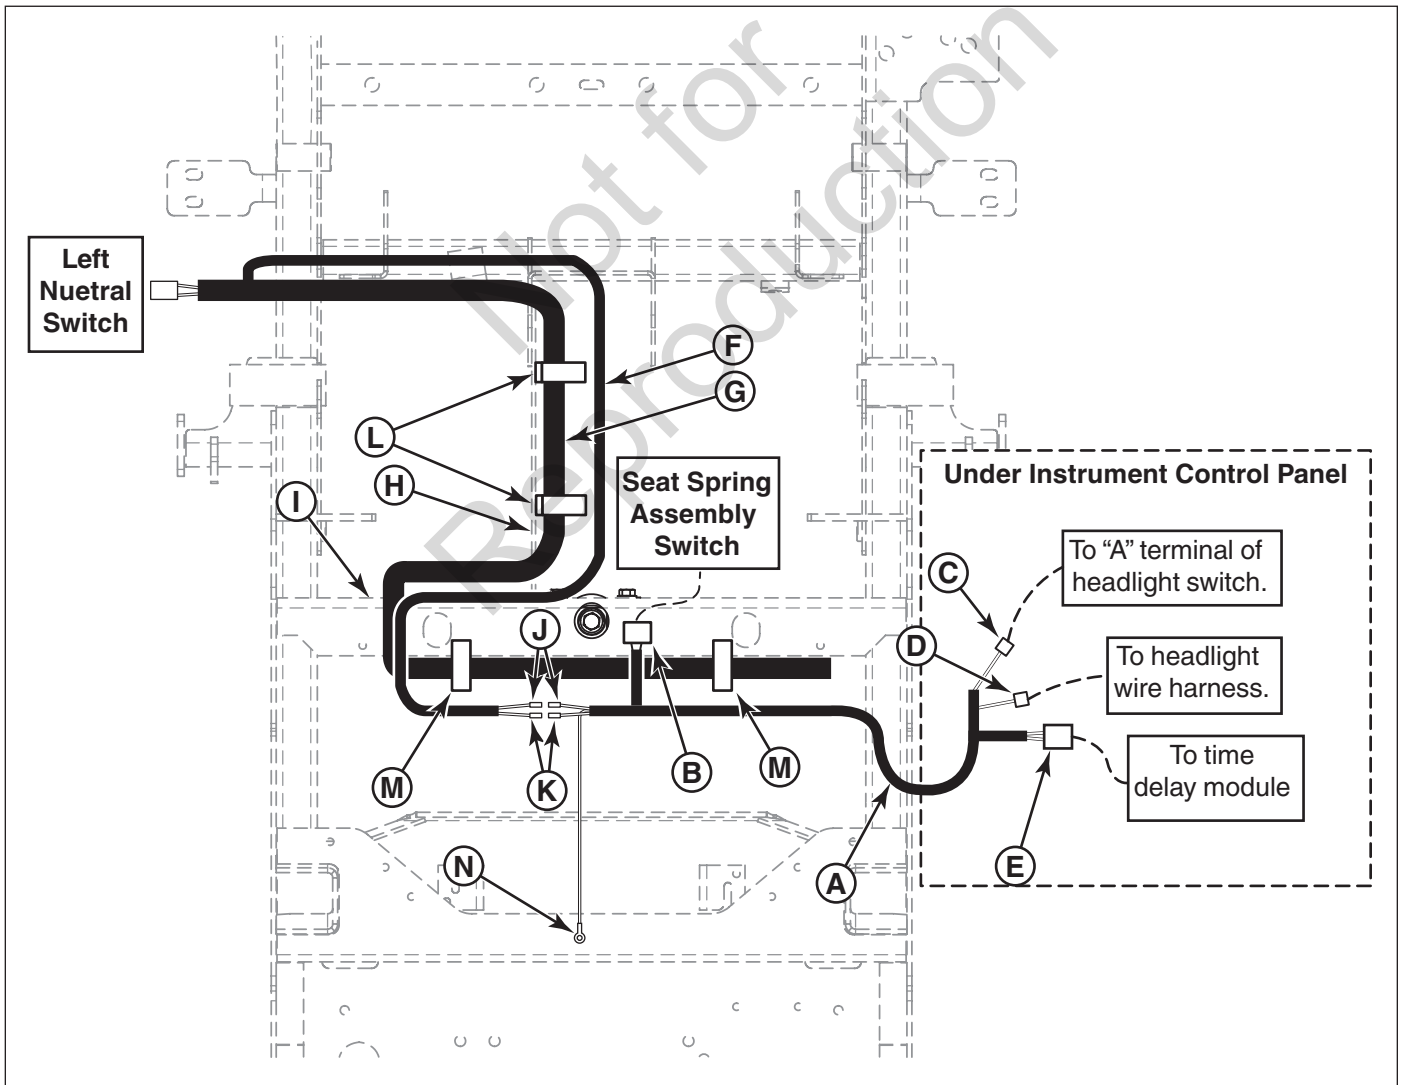

Figure 3. Installing the Wire Harness
- Install the 3/8 serrated flange nut (D) onto the 3/8 X 2-1/4" bolt (E) with the nut positioned so that the flange is away from the head of the bolt.
- Install the bolt down through the hole in the top of the seat plate and secure in place using the 3/8 nylock flange (F).
- Position the seat adapter wire harness (A, Figure 3) into the unit as shown in Figure 3. Connect the seat switch plug (B) to the switch on the pre-assembled seat spring assembly.